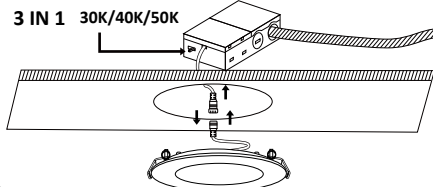

Fig3
**3.** Insert J-Box through the mounting hole and secure it, connect the fixture power cable to the J-Box. Select lamp color desired with the CCT switch, see Fig3.